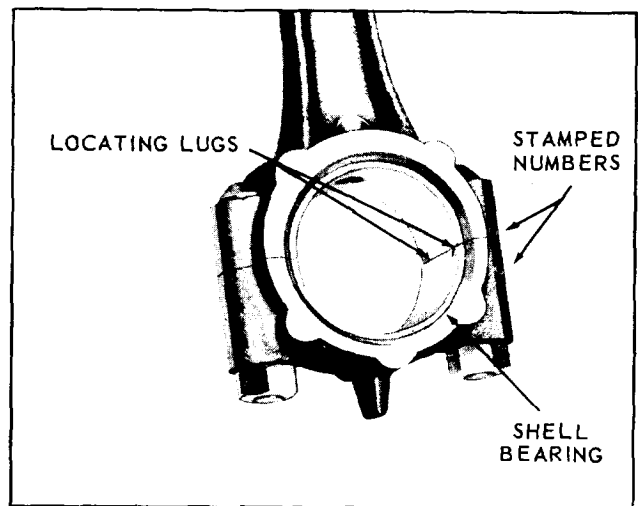

Fig. 28
### PISTONS and CONNECTING RODS (Figs. 28, 29, 32)
**NOTE:** These models of engines were originally furnished with *babbitt cast* connecting rod bearings. *Shell bearing* rods are now being used for current production engines, and are interchangeable with babbitt bearing rods for service replacement. Care should be taken in *reassembly* to mount bearings properly. The cap should be assembled to the rod so that the *locating lug* of both bearing halves are on the same side as illustrated in *Fig. 28*. Refer to chart, *Fig. 32*, for clearance between bearing and crank pin.